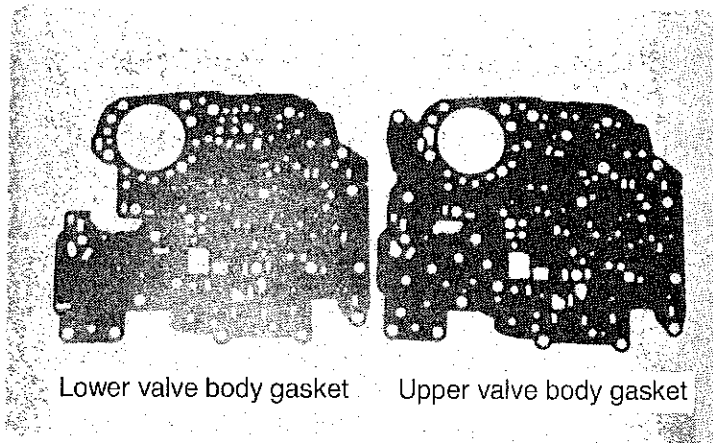

FIGURE 7
Step 12. Install the lower valve body gasket (identified in Fig. 7) in position on the valve body side of the B&M separator plate. Install the upper valve body gasket in position on the transmission case side of the separator plate. Use a small amount of grease to retain the gaskets on the plate.